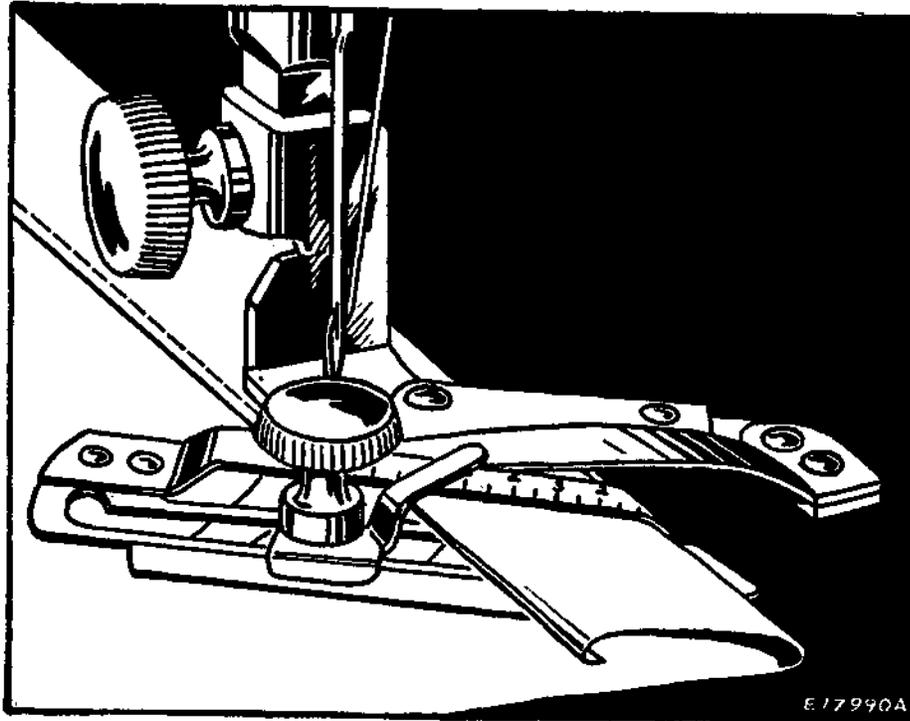

FIG. 42. SHOWING HOW ADJUSTABLE HEMMER IS USED FOR MAKING HEMS UP TO 15/16 INCH WIDE
- (3) Loosen the thumb screw on the hemmer and move the scale until the pointer registers with the number of the desired width of hem, No. 1 indicating the narrowest hem and No. 8, the widest, then tighten the thumb screw.
- (4) Place the cloth in the hemmer and draw it back and forth until the hem is formed, as shown in **Fig. 42**.
- (5) Draw the end of the hem back under the needle, lower the presser bar and commence to sew.
- (6) Guide sufficient cloth into the hemmer to turn the hem properly.